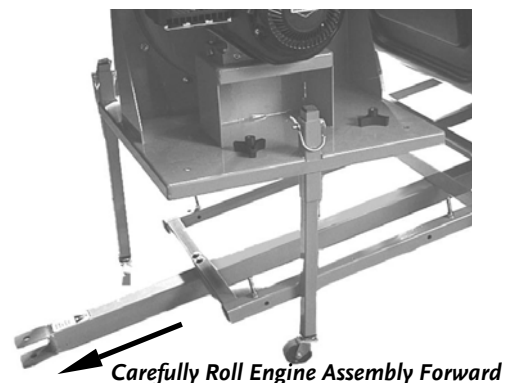

Figure 53
- Slowly lower the Trailer from under the Engine (*Figure 53*). The Engine assembly is now free for you to move it away from the Trailer.
- Carefully roll the Engine Assembly forward from the Trailer Frame (*Figure 53*).